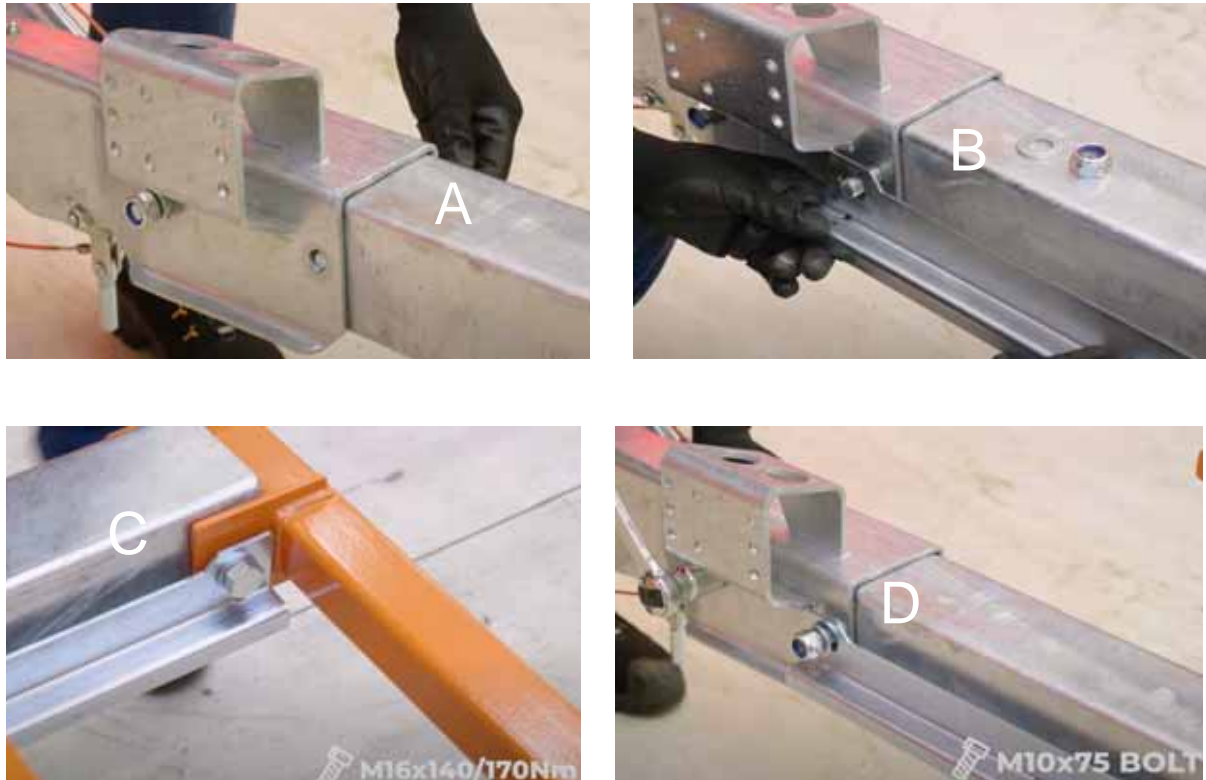

FIG. 3-30
See figure 3-30. Use M10x75 bolt to mount coupling head (A) to the drawbar. Bolt the cable duct to the drawbar with M10x75 bolt (D). Lighting cables should be route under the cable duct (B). Bolt the cable duct to the drawbar mount plate with M16x140 bolt (recommended torque to tighten the bolt is 125.4 ft-lbs. (170 Nm)) (C).